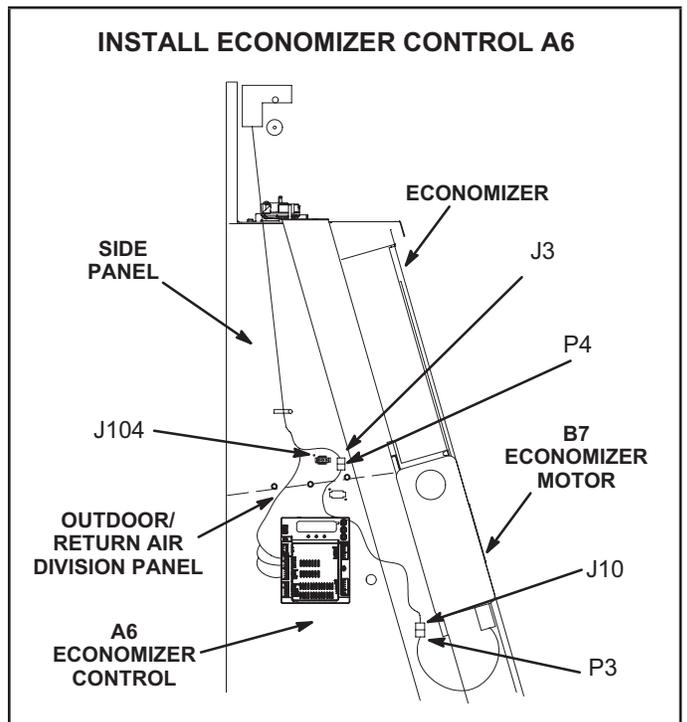

FIGURE 25
- 1 - Install A6 economizer control on economizer side panel as shown in FIGURE 25. Secure with #6-32 X 7/8" TFS screws provided.
- 1 - Locate 15-pin J3 unit control harness hanging on left side of filter compartment. See FIGURE 25. Disconnect P3 jumper plug from J3 and retain jumper plug for future troubleshooting.
- 2 - Connect the 15-pin male plug P4 from the economizer control (A6) harness to the 15-pin female jack J3 on the unit control harness. See FIGURE 25.
- 3 - Locate brown and yellow kit harness with wires labeled J104-1 & J104-2 on one end and A6-OAT, A6-COM, & A6-AUX-A1 on the other end. Insert the connector with wires labeled J104-1 & 2 into the opening on economizer side panel and snap into place. See FIGURE 25.
- 4 - Connect the 15-pin female plug J10 to the 15-pin male plug P3 from the damper motor. See FIGURE 25.